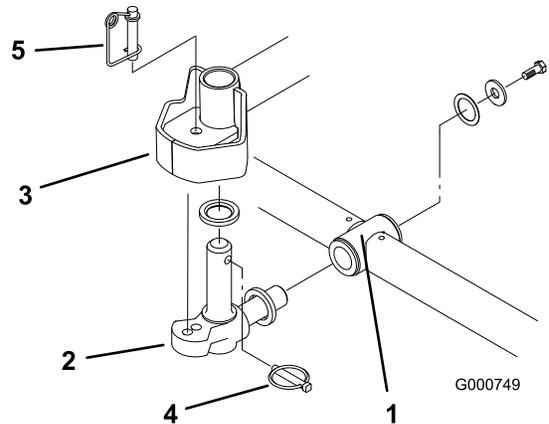

Figure 5
6. Insert a thrust washer onto horizontal shaft of pivot knuckle as shown in (Figure 5).
4. Insert a thrust washer onto horizontal shaft of pivot knuckle as shown in (Figure 5).
5. Secure pivot knuckle to carrier frame with a thrust washer, flat washer and a flange head capscrew (Figure 5).
6. Insert a thrust washer onto vertical shaft of pivot knuckle (Figure 5).
7. Insert the horizontal shaft of the pivot knuckle into the mounting tube of the carrier frame (Figure 5).
8. Secure pivot knuckle to carrier frame with a thrust washer, flat washer and a flange head capscrew (Figure 5).
9. Insert a thrust washer onto vertical shaft of pivot knuckle (Figure 5).
10. If removed, insert the vertical shaft of the pivot knuckle into lift arm pivot hub (Figure 5). Guide the pivot knuckle in place between the two rubber centering bumpers in the under side of the lift arm steering plate.
11. Insert the lynch pin into the cross hole on the pivot knuckle shaft (Figure 5).
Note: If fixed cutting unit position is required, insert steering locking pin into pivot knuckle mounting hole (Figure 5).
14. Hook spring wire around bottom of steering locking pin (Figure 5).